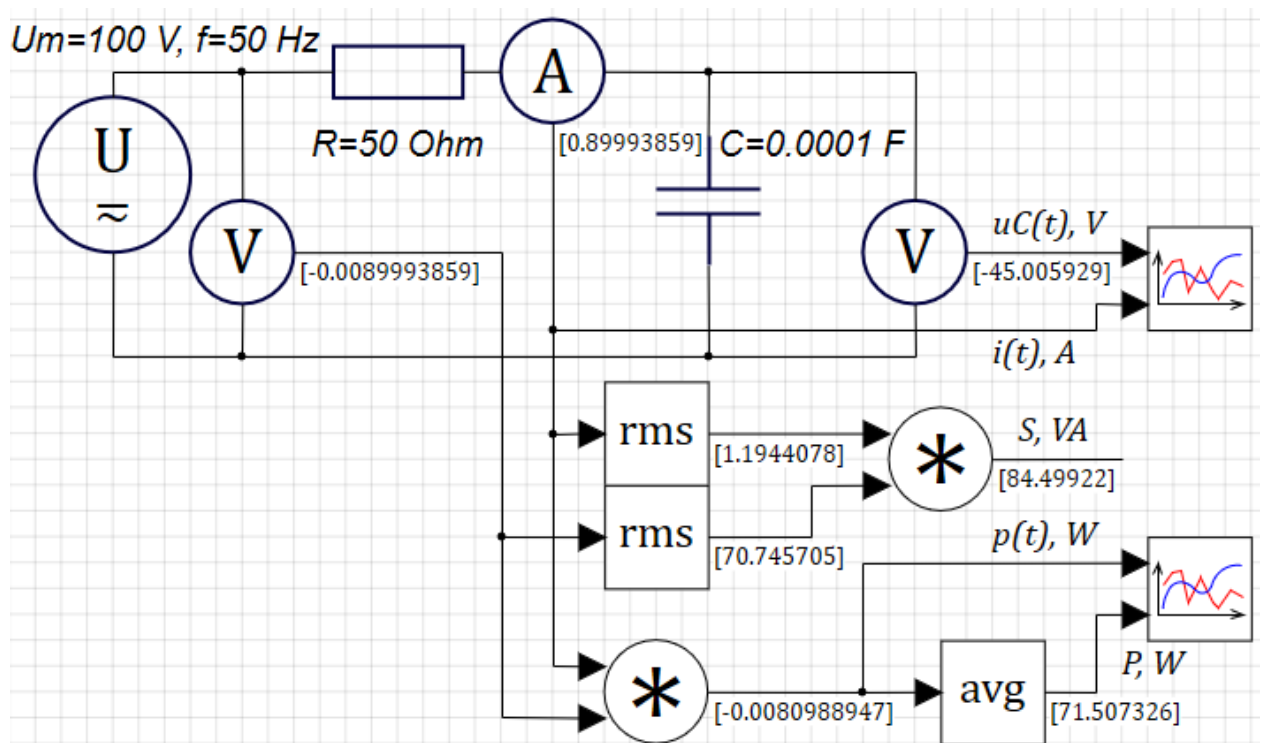
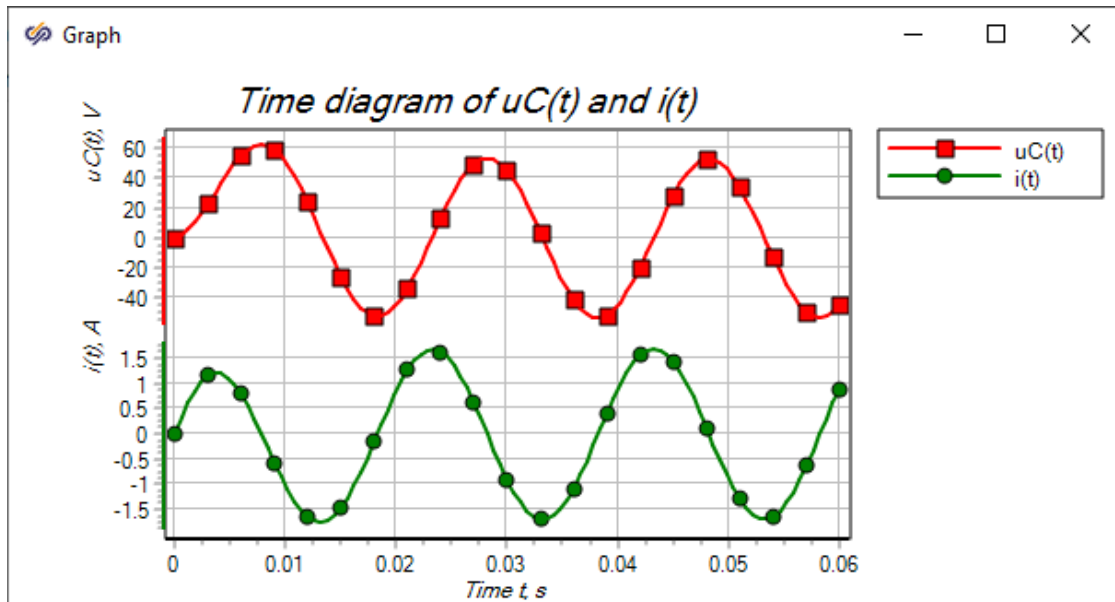
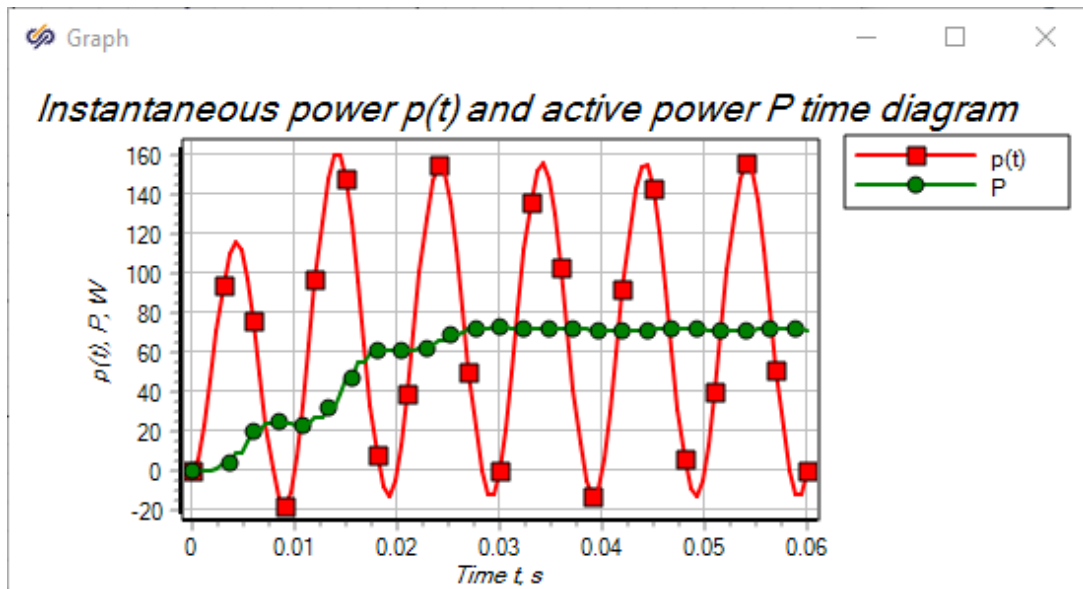

Figure 3.5
Figure 3.6
Figure 3.7
6. Assemble a dynamic model of a 1st-order inertial link in the project window of the SimInTech system when a harmonic signal is applied to its input and measure the total and active power in it (Figure 3.5).
– the value of the properties **Period, s**, is equal to the period of the input signal (for the scheme of Figure 3.5 – **0.02 s**);
– the value of the properties **Discretization step, s**, when integrating with a constant step, it is recommended to set a multiple of the integration step (for the scheme of Figure 3.5 – **0.0006 s**).
9. Run the simulation scheme and click on the button . The simulation results corresponding to the time of 0.06 s are shown in the Figure 3.6.
Figure 3.6 shows the time diagrams **$uC(t)$** and **$i(t)$** on the screen of the **Graph of time** block for the model from Figure 3.5. It can be seen from the graphs that since there is a reactive element (capacitor) in the circuit, a transient process takes place at the beginning of the simulation, which is almost completed in about one period.
Figure 3.7 shows a time diagram on the screen of the **Graph of time** block for the instantaneous power $p(t)$ and the active power P consumed by the circuit from the Voltage source, which is equal to the average power over the period. It can be seen from the time diagram that the active power is approximately equal to its calculated value shown in the Figure 3.5.
10. On the tab, determine the **Parameters** of the **Properties** window of the right block of the **RLC-circuit**, the voltage across the capacitance at the end of the simulation is **Voltage, V**. For the circuit, Figure 3.5, this value in volts is **-45.00592903** (Figure 3.8).